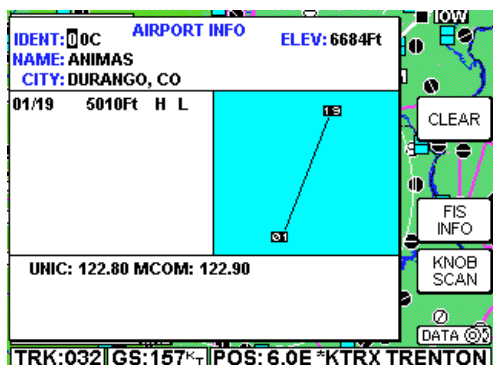

Figure 6
As shown in Figure 6, you can display airport information by placing the joystick pointer over an airport icon and pressing **MORE INFO**. All the information given here is derived from the built-in Jeppesen database. Runway surfaces are shown as an **H** for hard and an **S** for soft. Lighting is shown as an **L** for lit and a **U** for unlit.
1. The cursor will be over the first character of the airport identifier as shown in Figure 6. Select the desired character by turning the inner knob.